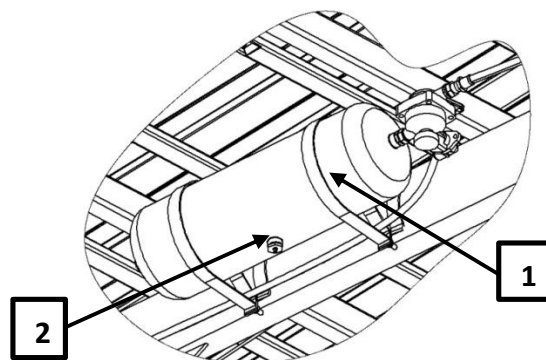

Figure 16. Draining the air tank
- open the drain valve (item 2, fig. 16) situated at the bottom of the tank.